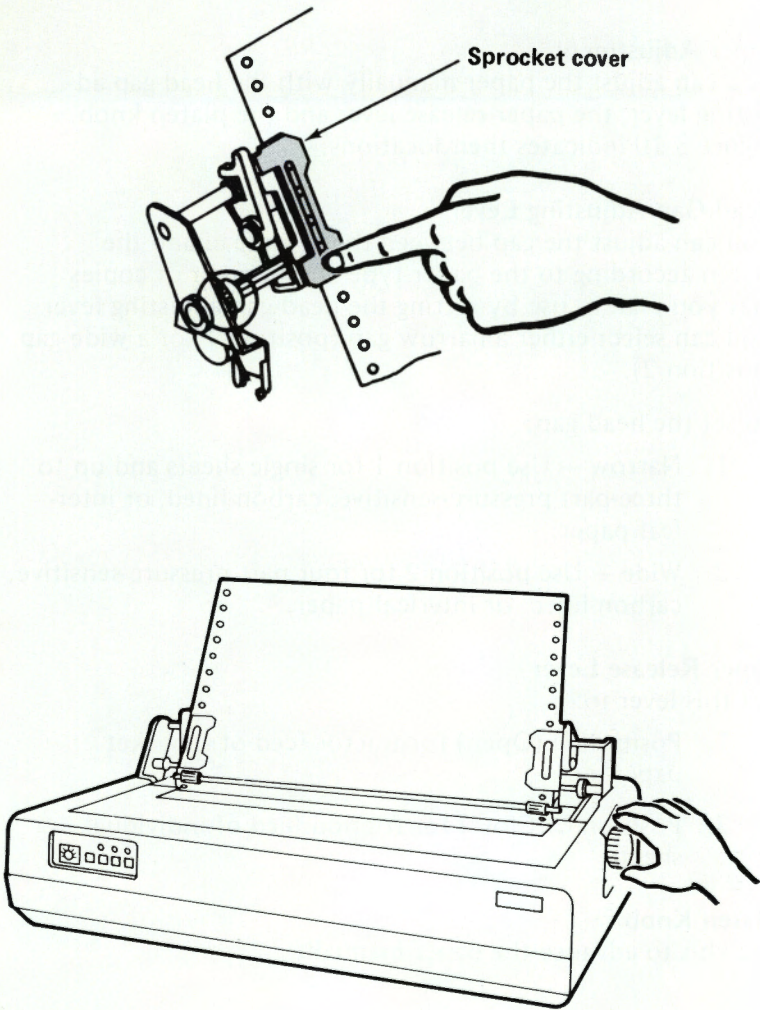

Figure 3-9
13. Close the sprocket covers (see Figure 3-9).
15. Move the paper to the top-of-form position by turning the platen knob (see Figure 3-9).